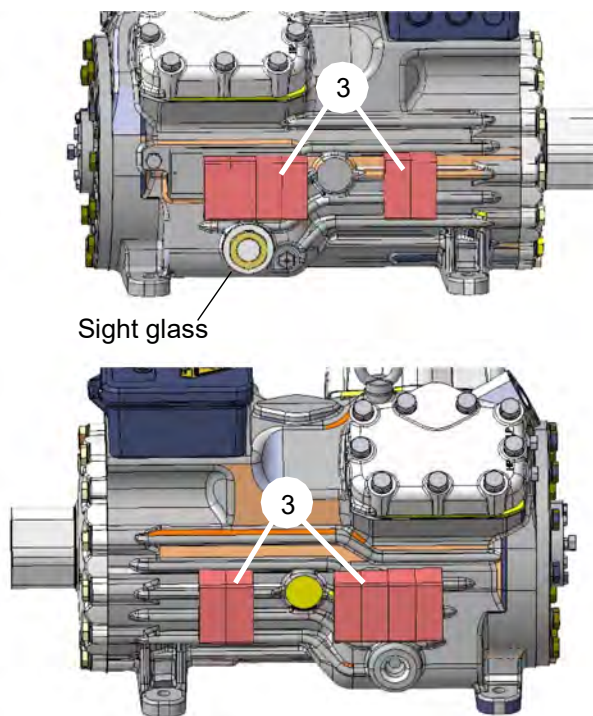

Fig. 810
- Lift the compressor on the ring screw with suitable lifting device and place into compressor pan with side foam (3, Fig. 810).